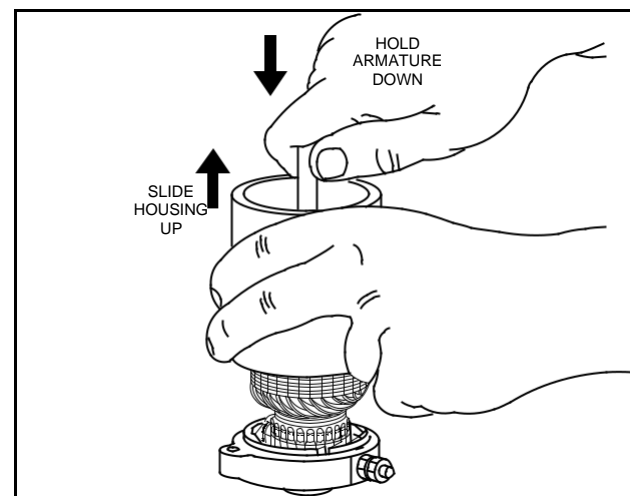

Fig. 25 – Removing Motor Housing
4. Hold the armature and commutator end cap against a work surface while sliding housing off the armature, Fig. 25.